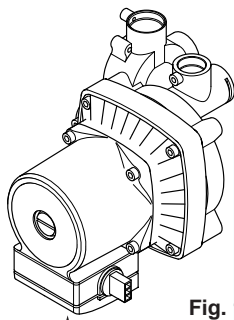

Fig. 125
11.16 Pump (Complete) (Fig. 125 & 127)